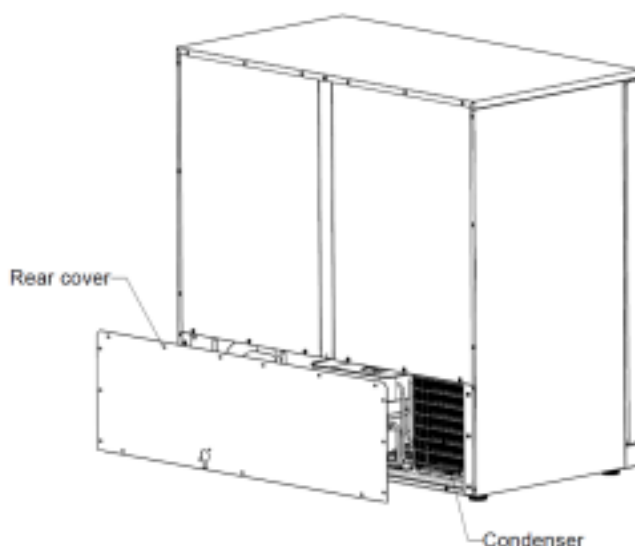

Figure 6: Location of the condenser
Step 3: Locate the condenser as indicated in Figure 6 and check the condition. The exact appearance and size will vary according to model but it always has the appearance of a black grille.